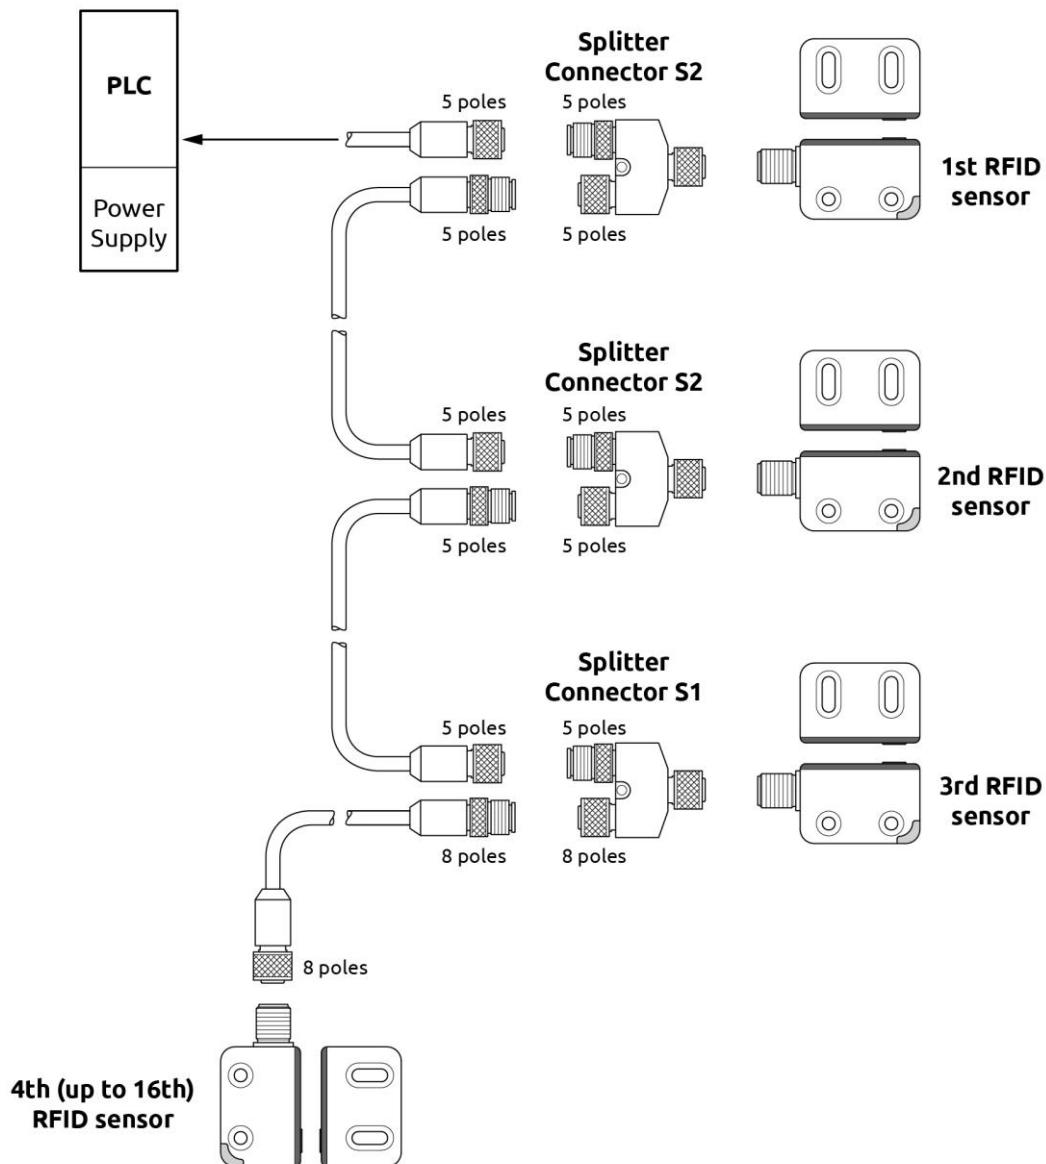

Figure 7 - Serial mode (Automatic)
- ➔ For a quicker and safe connection, Reer recommends using its splitter connectors as showed in Figure 7 and Figure 10.